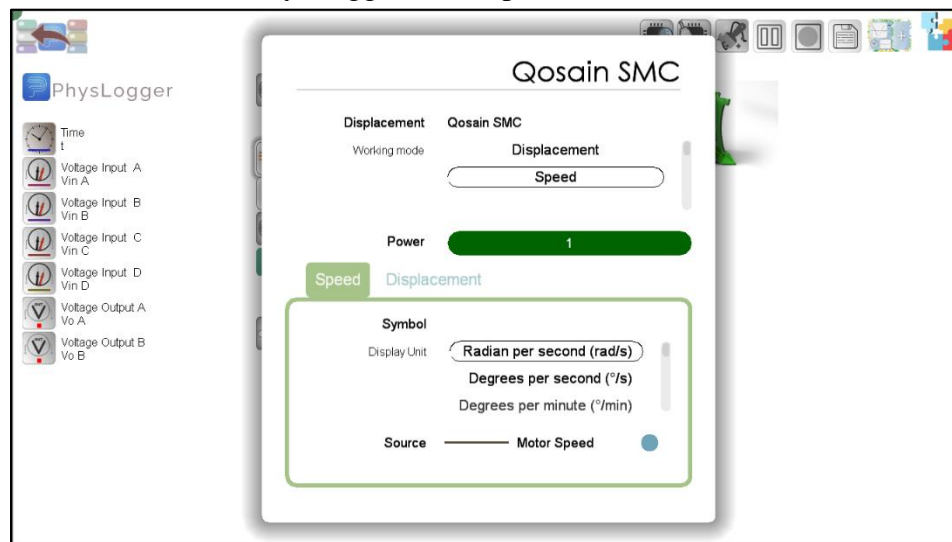

Figure 6: Setting up an adjustable slider (named `Motor Speed`) and other parameters of SMC in PhysLogger Desktop to control the speed of the stepper motor.
19. You may rename your motor speed controller slider (we named it Motor Speed). Figure 6 shows how the SMC is set up in the application.